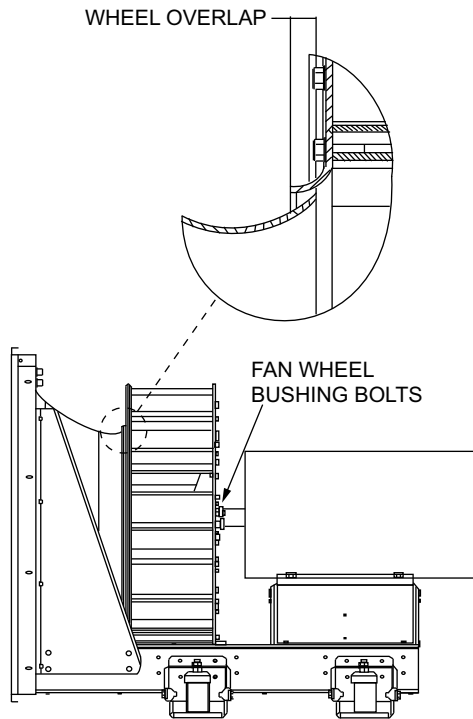

Fig. 178 — Fan Wheel Bushing Location
2. Check tightness of fan wheel bushing bolts (see Fig. 178) per Table 44 below.
4. Verify the fan wheel to inlet cone overlap (see Fig. 178) is within limits per Table 45 below.